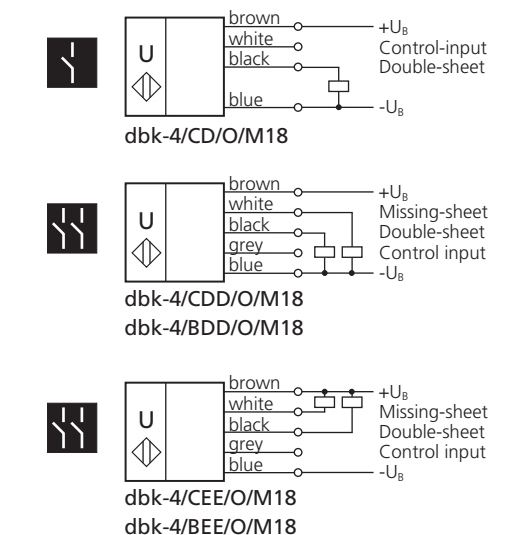

Fig. 2: Standard symbols and terminal assignments
- Connect the 4-core or 5-core control cable of the receiver as shown in fig. 2.